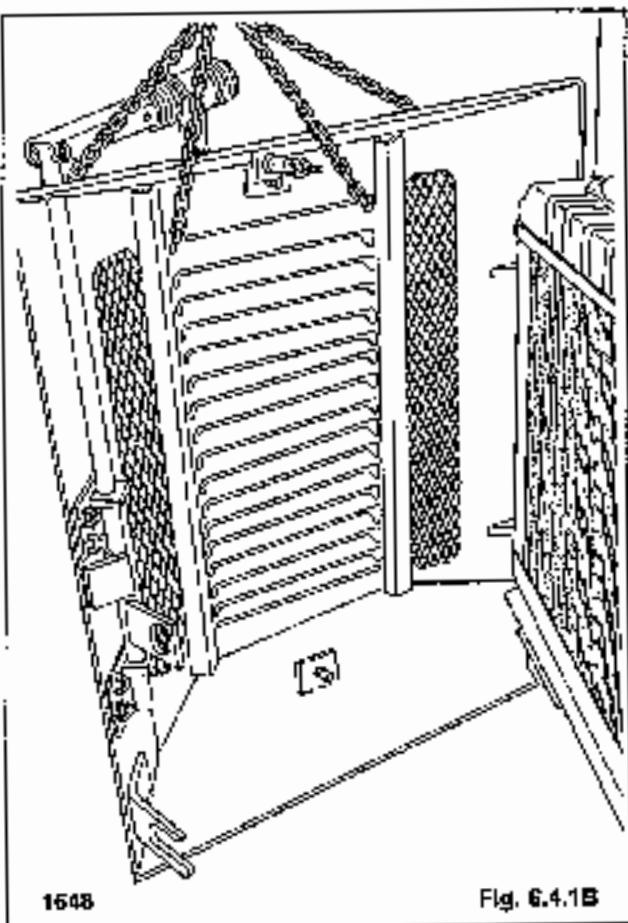

Fig. 6.4.1B
2. Attach chains and a chain hoist to the rear door (Fig. 6.4.1B). Lift the rear door with the chain hoist clear of the hinges. Remove the door from the loader.
1. Attach chains and a chain hoist to the rear door (Fig. 6.4.1B). Raise the rear door with a chain hoist and install the rear door on the loader.